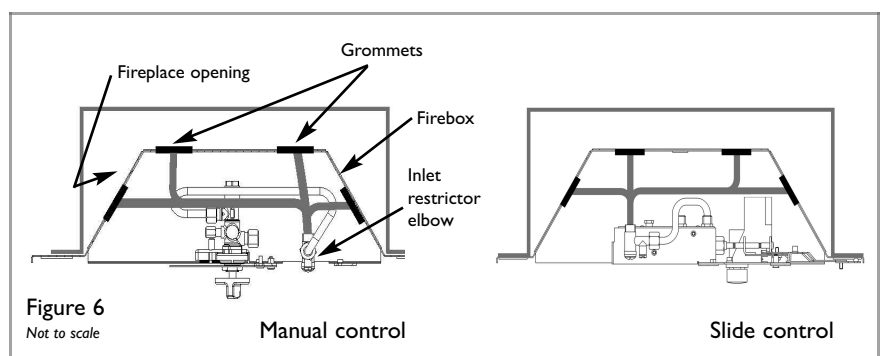

Figure 6
**Supply pipe entry :** Knockout holes are provided in the rear and sides of the firebox for use where concealed pipework is required. Where necessary, knock out the appropriate hole with a sharp tap from a hammer, and fit the rubber grommet supplied. A small incision can now be made in the rubber to slip snugly around the outside of the pipe and sleeving. **Do not install or use the appliance without the seal in place.** If a hole is inadvertently opened, reseal with an intact grommet. Failure to fit the seal correctly will cause flue suction to act upon the area under the burner, resulting in poor performance and intermittent cutting out of the burner. Some possible pipe routes are shown in figure 6.
When the opening is ready for installation of the fire, the gas supply can be routed. Some possible supply pipe routes are shown in figure 6. Select the supply route most relevant to the entry point of the gas supply into the fireplace opening. The gas pipe must be suitably protected where it passes through fireplace openings. Any sleeving should be sealed to the pipe at its ends.